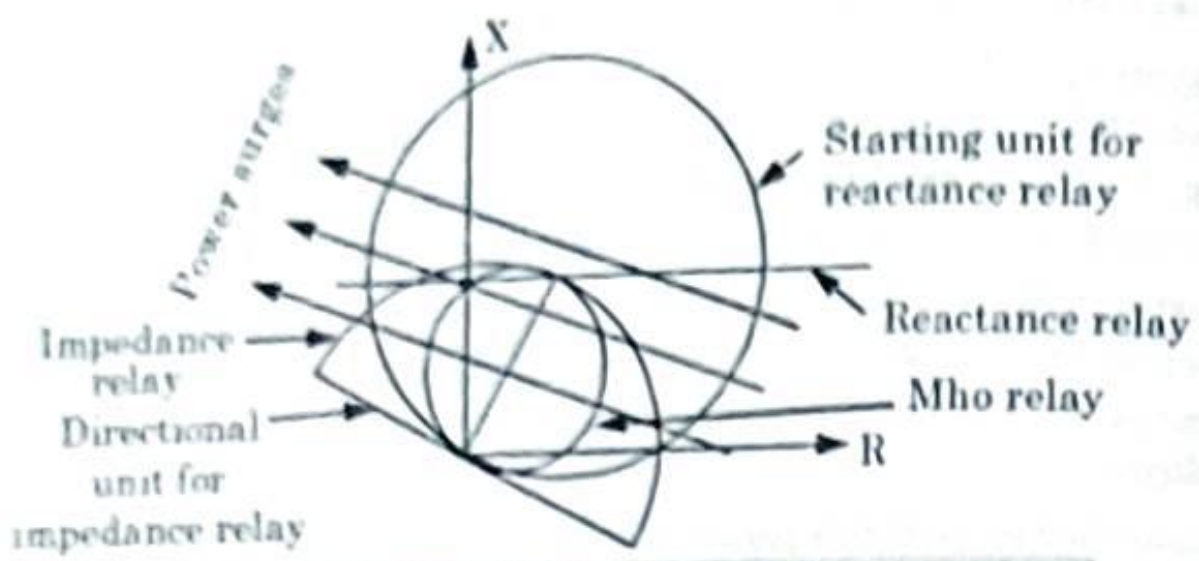

Fig. 3.18.1. Effect of power surges on distance relays.
- Fig 3.18.1 shows the characteristic of distance relays and power surges on R-X diagram. It is evident from the Fig. 3.18.1, that the relay characteristic occupying greater area on the R-X diagram is least affected.